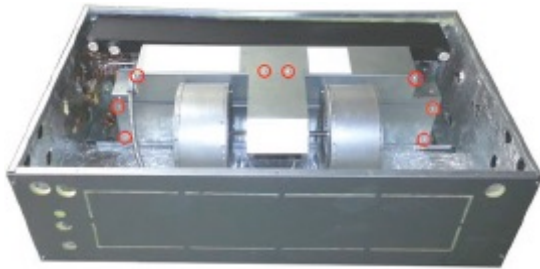

Fig 5.1
5.1.1. Using ¼" nut driver, remove the (8) hex screws as shown in the picture above (Fig 5.1). Remove the control panel cover, disconnect the fan motor wiring, and remove the blower assembly.